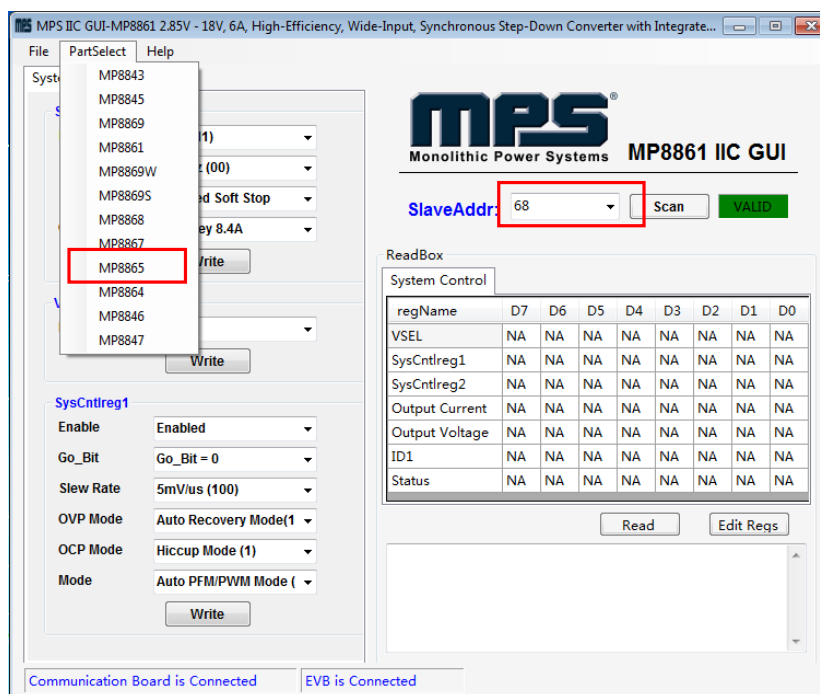
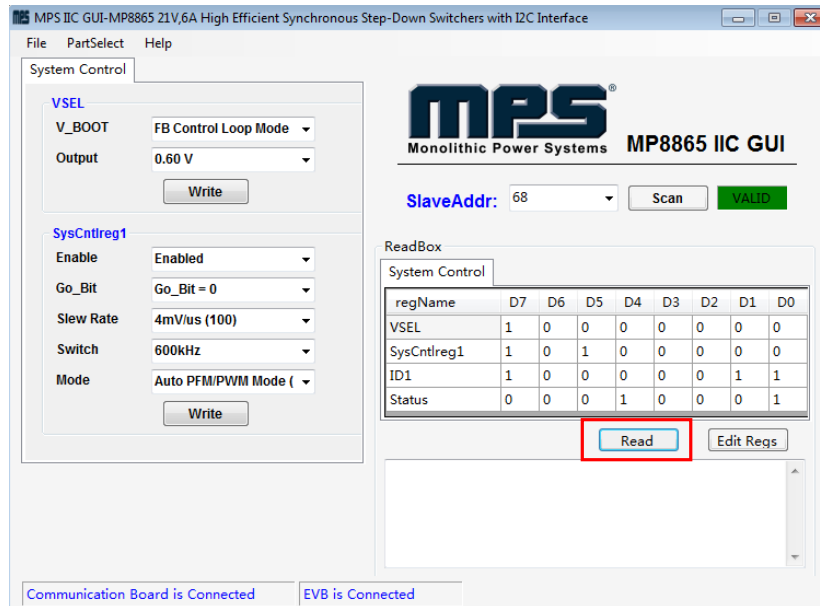

Figure 7: Appearance of Address Shows Successful Connection
Figure 9: Values from I²C Shown in Table
- If connection is successful, the address will be listed in the “Slave Address” (see Figure 7).
- Click the **"PartSelect"** button to select the MP8865 (see Figure 7) (The default GUI window is for the MP8861). The Register Control menu will appear on the left side. The I²C register values will be read and displayed on the right side after clicking the **"Read"** button (see Figure 9).